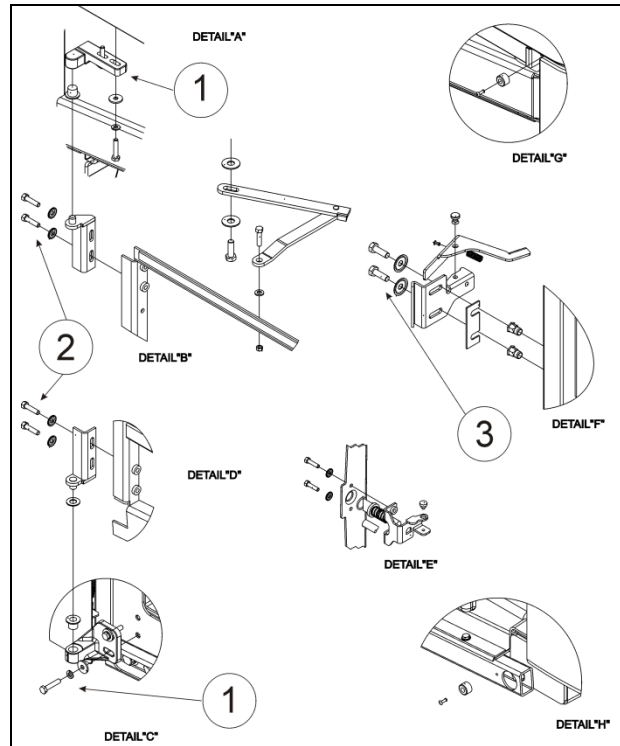

FIGURE 40: RADIATOR DOOR DETAILS 18636_2
1. Loosen the bolts, (1, Figure 40) holding the hinge to the vehicle structure to shift the door "LEFT or RIGHT".
2. Loosening the bolts (2, Figure 40) allows the door to be shifted "UP or DOWN".
To adjust the latch mechanism (3, Figure 40) and the striker pin: